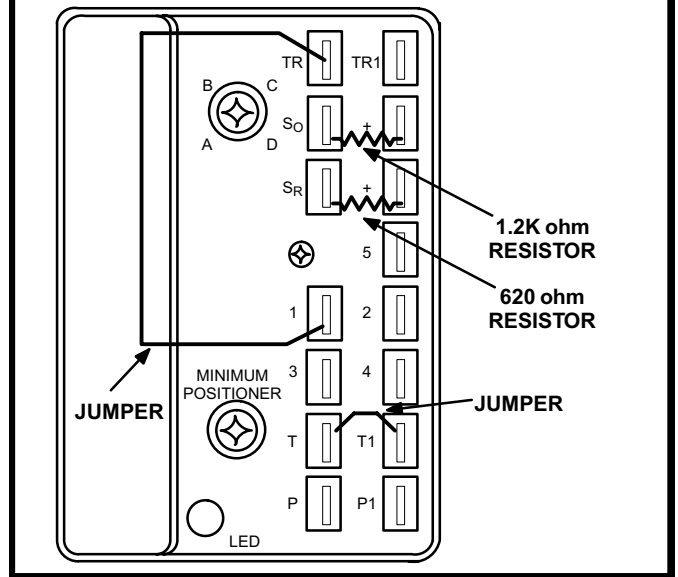

FIGURE 9
- 11- Turn on power to unit. (See figure 9).